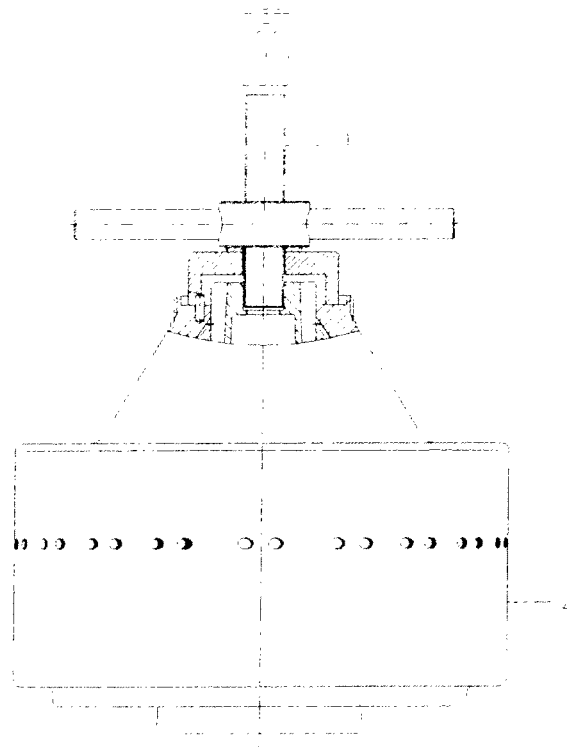

Figure 4.3
**To lift the bowl** (fig. 4.3) a particular procedure must be followed:
- screw on the bowl (2) the threaded rod with nut (1), used for disks compression;